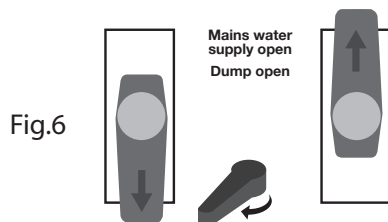

Fig.6
- 5) Once this time has passed, set the valves and flow reverser as per Figure 6.